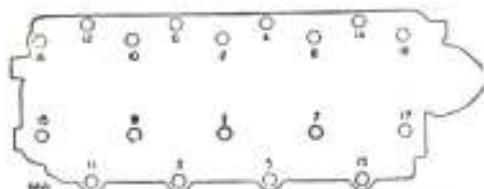

Fig. 38 Order of tightening cylinder head bolts
- (1) Remove the filler cap and remove the plug at base of radiator and drain the coolant from this point only.
- (2) Lift bonnet panel clear.
- (3) Remove the carburettor air intake pipe complete.
- (4) Disconnect: throttle return spring linkage, at a ball joint; mixture control cable, at clamp-bolt; hand throttle control, at ball joint; plug leads.
- (5) Unscrew the dome nuts securing rocker cover and lift the cover clear.
- (6) Tighten down the cylinder head bolts in the order indicated in Fig. 38. The $\frac{1}{2}$ in. U.N.F. bolts including those that secure the rocker shaft brackets must be pulled down to 65 lb./ft. (8,9 kg/m), $\frac{5}{8}$ in. U.N.F. bolts should be tightened to 18 lb./ft. (2,4 kg/m). Engine hot.